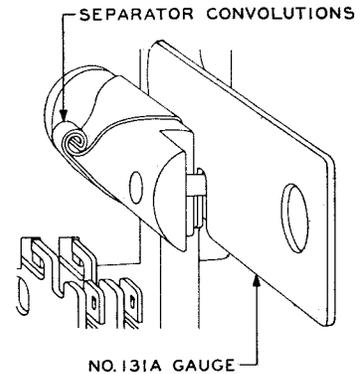
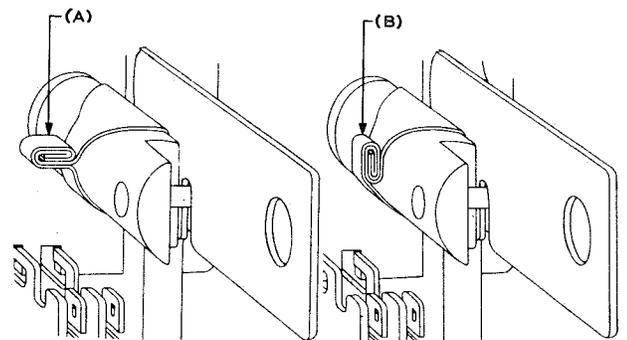

Fig. 6 - D-167911 Separator Convolution After Removal of D-167912 Separator Adjuster
Fig. 7 - Flattening of Separator Convolution
firmly wound together concentrically and the separator fits snugly all around the core as shown in Fig. 6. With the relay still energized, lift the gauge off the stud and with a rotary motion move it up and down between the armature and the separator two or three times to flatten out the entire surface of the separator against the pole face. Again rotate the adjuster to insure that the separator is tight. Then hold the separator in place with a finger tip and withdraw the adjuster. Flatten the convolutions of the separator with the No. 485A pliers as shown at (A) Fig. 7; then fold the flattened convolutions in a clockwise direction with a finger or the orange stick against the rear of the core as shown at (B) Fig. 7. Again rotate the No. 131A gauge. Release the relay and remove the gauge.
(4) After mounting the separator, check the relay for armature travel, stud gap, contact make, contact separation, and electrical requirements as covered in Section A461.010.